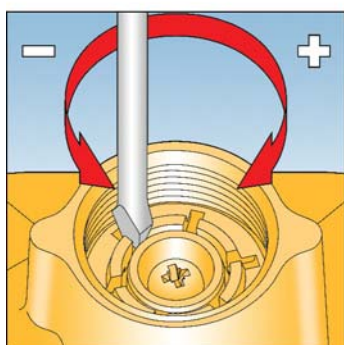

Fig. 6
- 4) Turn anticlockwise (-) to reduce loading on regulator spring to minimum. See Fig. 6 (If no safety devices are fitted go to instruction 12).
- 6) Insert a flat bladed screwdriver into one of the partial slots on the OPSS spring holder. See Fig. 6.
- 15) Slowly turn OPSS spring holder anticlockwise (-) until OPSS device trips off. See Fig. 6.